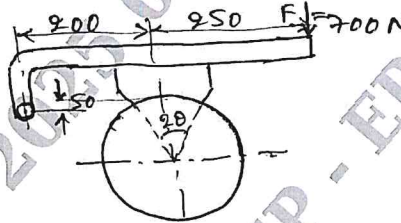

Fig.Q.9(b)
- b. A single block brake is shown in Fig.Q.9(b). The drum diameter is 250 mm. The contact angle is  $90^\circ$ . If an operating force of 700 N is applied at the end of the lever and the coefficient of friction is 0.35, determine the torque that may be sustained by the brake. (10 Marks)